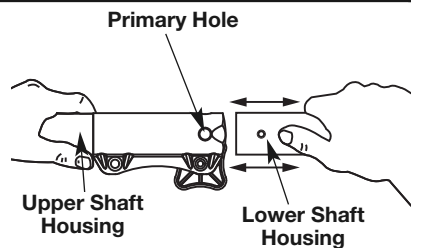

Fig. 2
3. While firmly holding the upper shaft housing, pull the attachment or extension boom out of the coupler (Fig. 2).